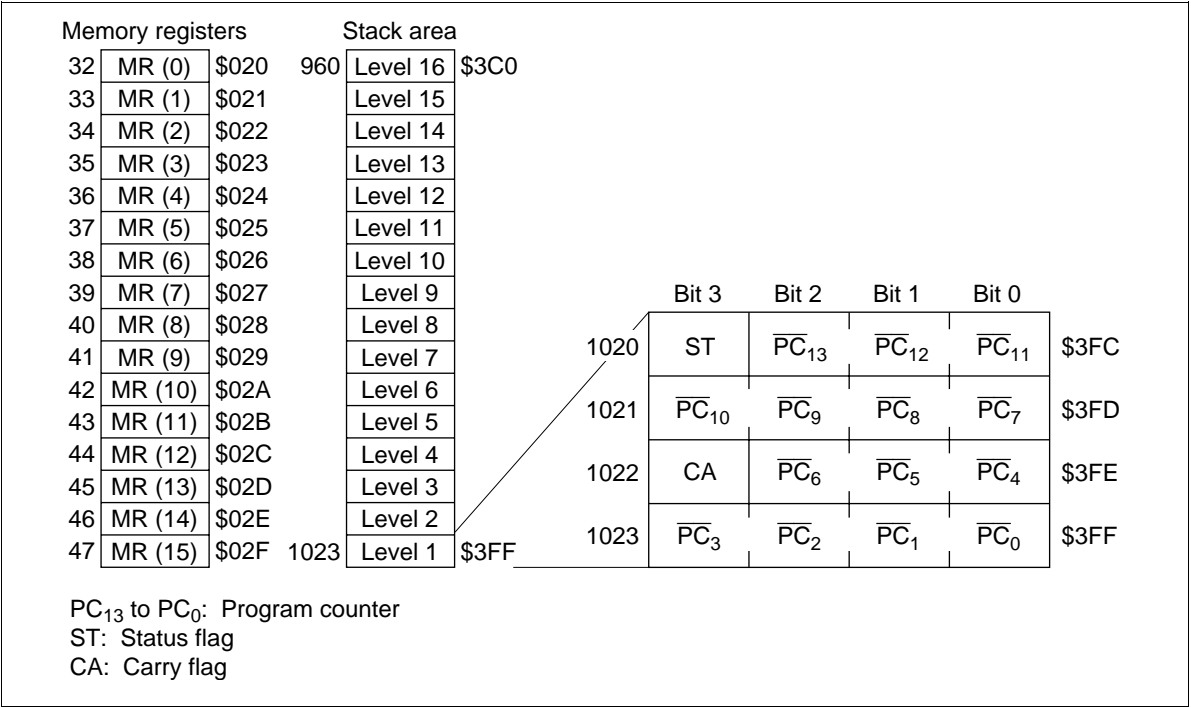

Figure 4 Configuration of Memory Registers, Stack Area, and Stack Position
Data Area (\$020 to \$3BF): The 16 digits, \$020 through \$02F, of the data area are called memory registers (MR) and are accessible by the LAMR and XMRA instructions (figure 4).
Stack Area (\$3C0 to \$3FF): Locations \$3C0 through \$3FF are reserved for LIFO stacks to save the contents of the program counter (PC), status flag (ST), and carry flag (CA) when subroutine calls (CAL instruction, CALL instruction) or interrupts are processed. This area can be used as a 16-level nesting stack in which one level requires 4 digits. Figure 4 shows the save condition. The program counter is restored by the RTN and RTNI instructions. The status and carry flags are restored only by the RTNI instruction. This area, when not used as a stack, is available as a data area.